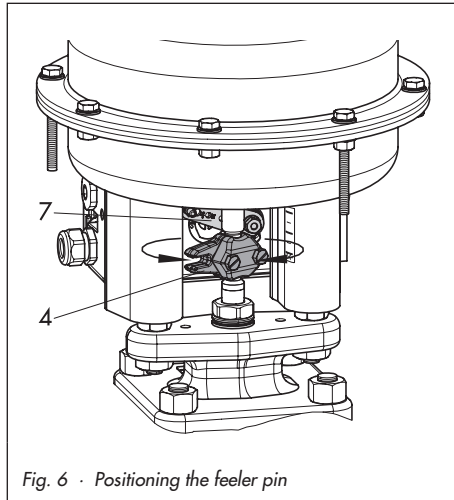

Fig. 6 · Positioning the feeler pin
- Pull the lever (7 in Fig. 6) downwards, overcoming the spring force. Turn the stem connector clamps so that the